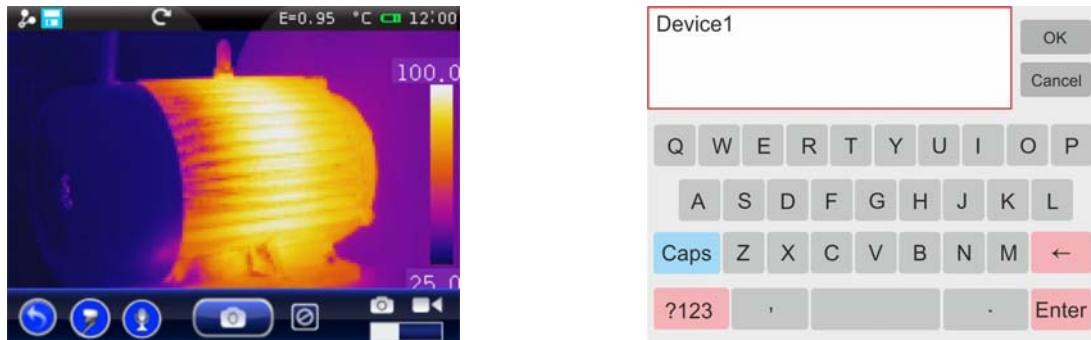

Fig. 63: Inserting a text annotation
1. Save the image according to the procedure described in § 5.2.4.1. At the end of the operation, the instrument's situation is shown in Fig. 63 – Left side.
2. Touch the icon “”. The screen Fig. 63 – Right side is shown on the display